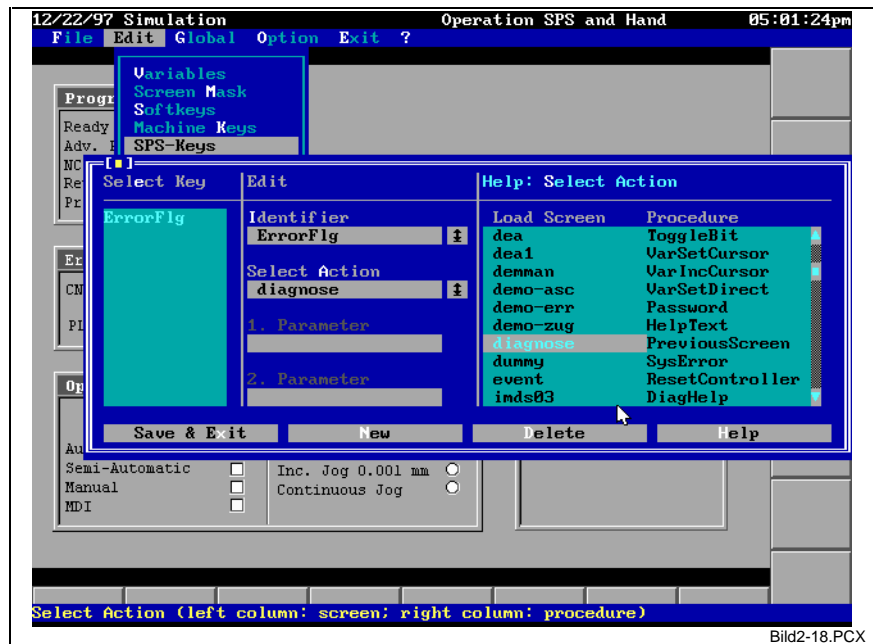

Fig. 2-18: Dialog for SPS-Keys
**SPS key** This is the interconnection between a Boolean SPS variable and an action in the current image. Analogous to a 'normal' soft key, a new image, or a procedure (with or without parameters) may be specified as an action. Any number of SPS keys can be entered in an image. For this purpose, select the 'Edit/SPS-Keys' menu item (see Fig. 2-18).